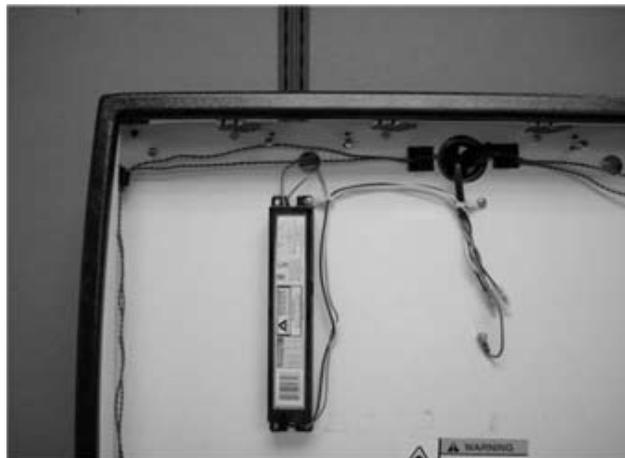

Figure 18.
3. Remove and discard ballast, see Figure 18.